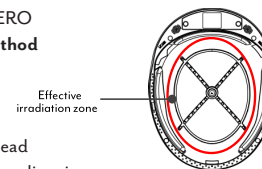

Figure 4-1
- 1) Effective irradiation zone of the light source is shown in the FIGURE 4-1.